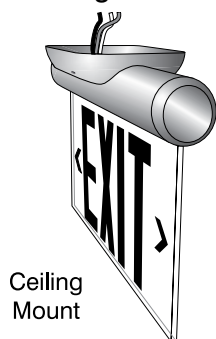

Figure 3
- c. Secure the exit to the electrical box with two screws (not supplied) through the mounting holes in the canopy (Figures 3 & 5) .